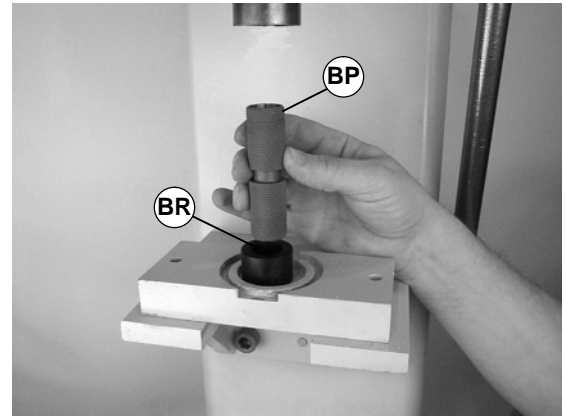

Figure 50
1. Orient bearing anvil/sleeve removal tool (part # 25-09☆) (BR of Figure 50) with cavity facing up and place pulley (BP) onto tool.